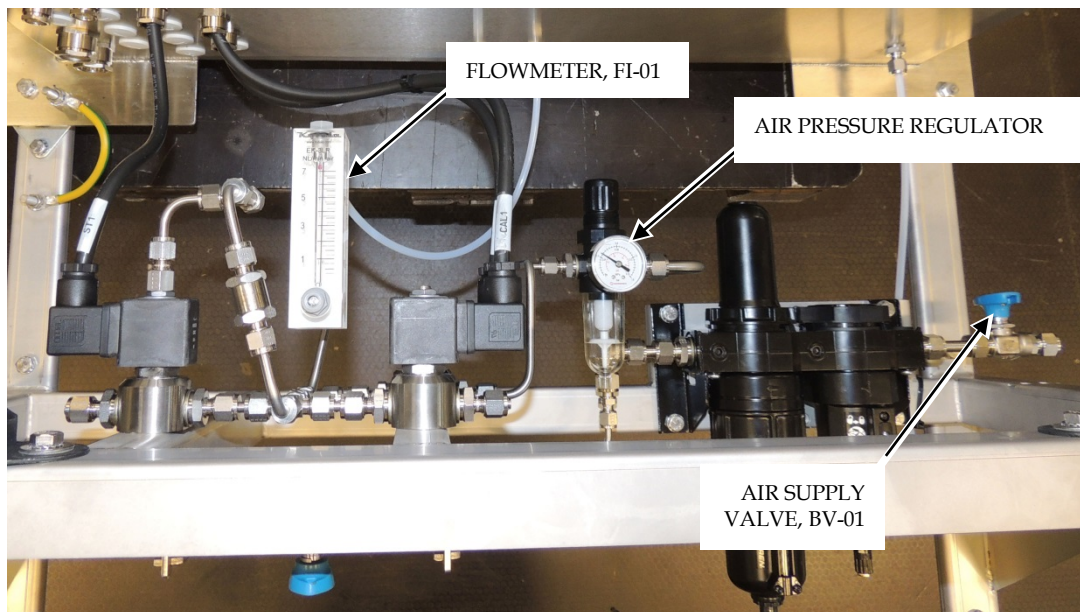

Figure 9 Flowmeter, regulator and air supply valve under AC
Flowmeters (refer to Figure 8 and Figure 9):
- 1) AC (analyser cabinet): Turn on the circuit breaker (item 2 and 4 on dwg 1002)
- 2) AC: Open valve, BV-01, on air supply (under AC). Refer to Figure 9.
- 8) AC: Make adjustment on flowmeter, FI-01, under AC to approx. 1.5 l/min when stream 1 is selected. Refer to Figure 9.
- 13) AC: Adjust the air supply pressure regulator under AC (refer to Figure 9) until flowmeter, FI-01, under AC is 1.5 l/min.